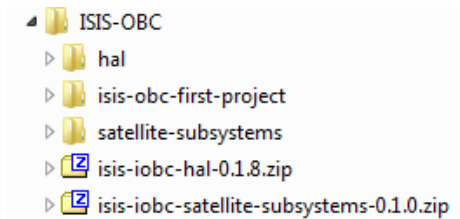

Figure 16 - Satellite-subsystems library added to the directory.
1. First the new library is extracted to the directory that also includes the project. The directory is shown in Figure 16.